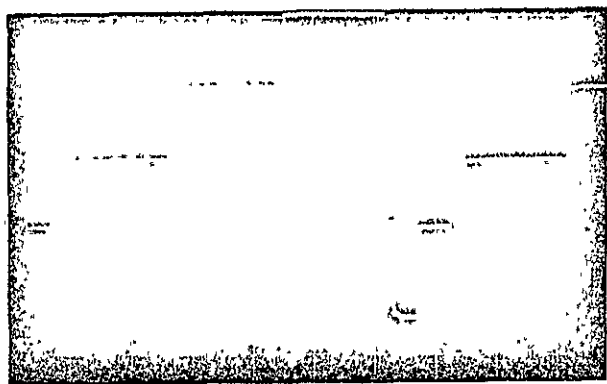

Figure 3-10. INTERLEAVER V/A OUT 1 or 2. Three-step test signal with interleaved audio.
6. Adjust front panel INTERLEAVER V/A OUT 1 LEVEL control for a 1 V pp signal at the INTERLEAVER V/A OUT 1 test jacks (refer to Figure 3-10).
Observe the PAM pulse (Audio Modulation) is as shown in Figure 3-10.